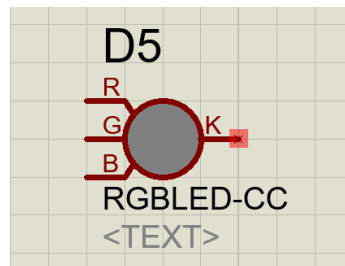

Figure 4. RGB Led simulation model
- **For RGB Led** (Figure 4) at least five commands should be implemented: